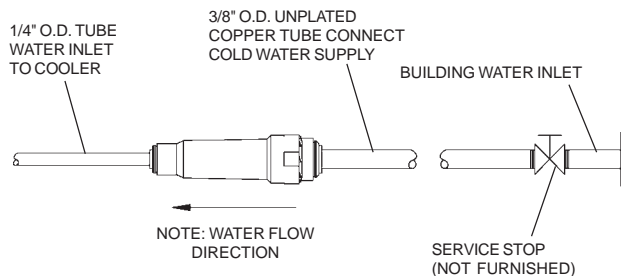

FIG. 1
- Actuation of Quick Connect Water Fittings:** Cooler is provided with lead-free connectors which utilize an o-ring water seal. To remove tubing from the fitting, relieve water pressure, push in on the gray collar while pulling on the tubing (See Fig.1). To insert tubing, push tube straight into the fitting until it reaches a positive stop, approximately 3/4".